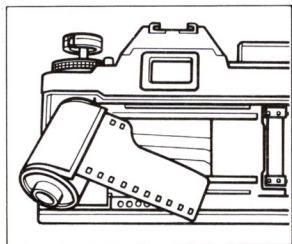

Fig. 16
2. Insert the film in the Film Chamber and push the Film Rewind Knob down to the original position. You may have to rotate the knob slightly to push it down completely. (Fig. 16)